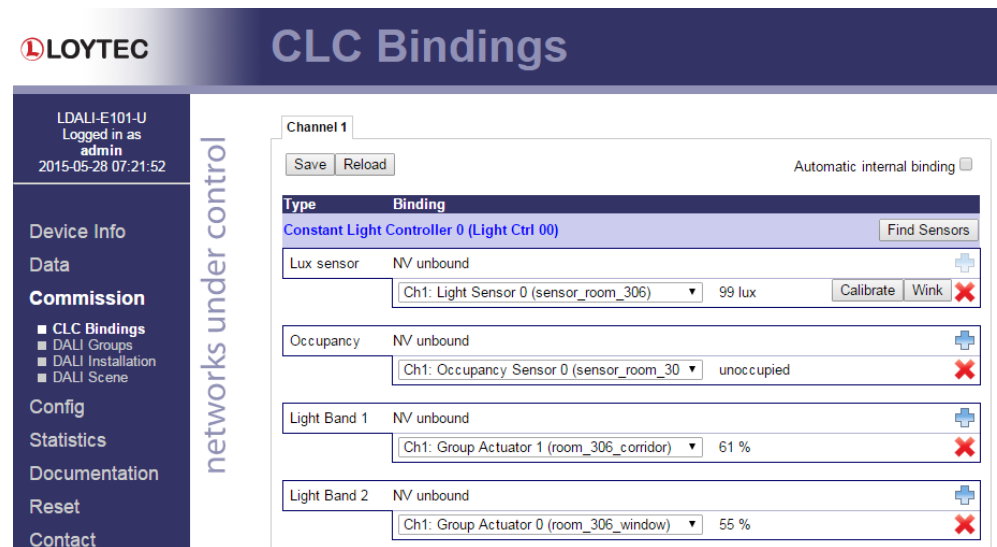

Figure 41: DALI Installation Web Interface: CLC Bindings.
- To determine which sensors (occupancy & lux) are used as inputs to and which light groups are controlled by a constant light controller instance go to the **CLC Bindings** page (see Figure 41).